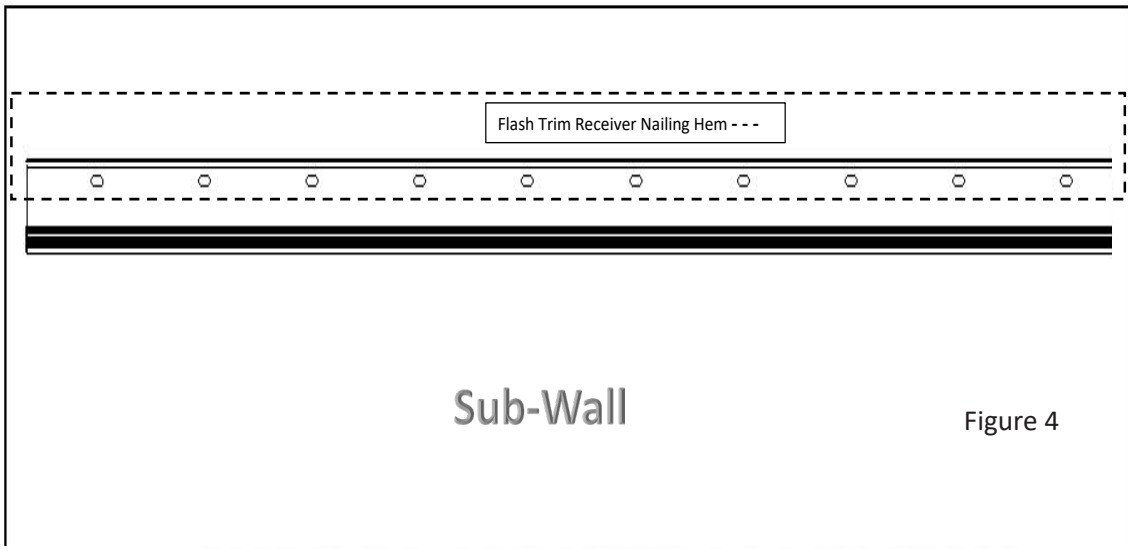
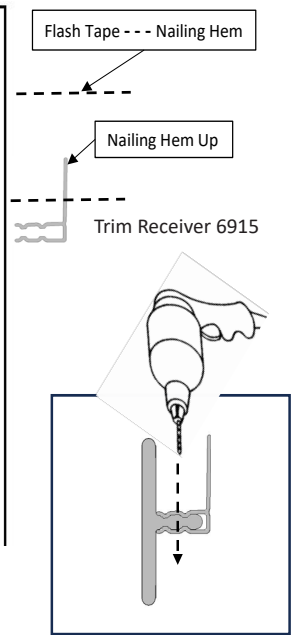

Figure 4
Figure 5
2. Locate Trim Receiver 6915 at the transition point of the wall with the nailing hem up, level, and fastened (Figure 4).
3. Flash along Trim Receiver nailing hem for water management (as you would around Doors & Windows) (Figure 4). *For additional water management, you can add weep holes by drilling 3/16" - 1/8" holes along the inside channel of the "T"-Moulding ever 24"-36" apart (Figure 5).